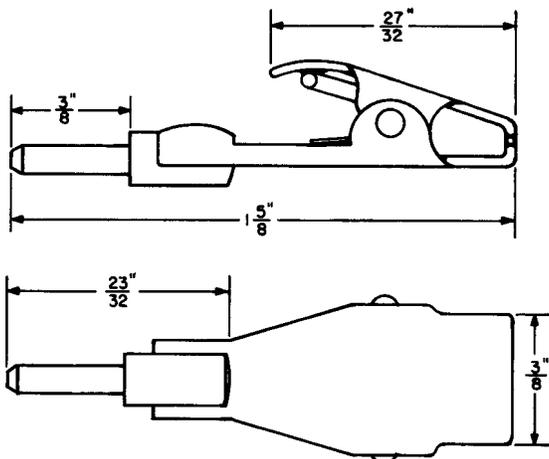

Fig. 4—365 Connecting Clip Tool
2.04 **365:** The 365 connecting clip tool (Fig. 4) is used in conjunction with a 360-type tool for general test purposes.